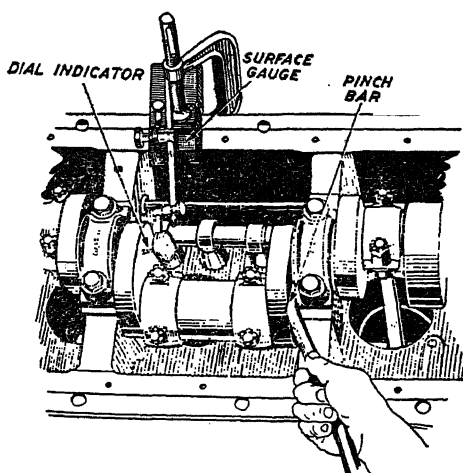

Fig. 13. A Dial Indicator Is Clamped to the Crank Case to Register End Play When Shaft Is Moved with Pinch Bar
**Crankshaft End Play.** The end play of the crankshaft in the main bearings should be tested, because if it is excessive a knock will result, while if too little the shaft will bind on the end faces of the bearing and cause heating. The use of a dial indicator for testing crankshaft end play is shown in Fig. 13.